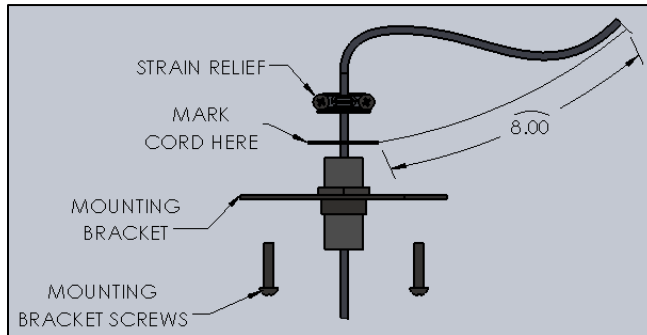

FIG. 27 – DETAIL B (SHOWING CORD TRIM INFORMATION)
- Mark CORD with marker above the all-thread and Trim off excess cord leaving minimum of 8" past the Top of the all-thread as shown below in fig. 27.